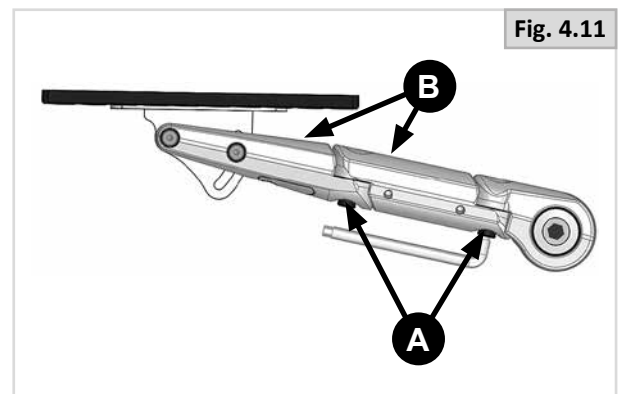

Fig. 4.11
##### Armrest width adjustment (Fig. 4.11 and 4.12)
**NOTE:** Only if the armrest width adjustment of Fig.4.11 & 4.12 is not enough, the armrest axle can be moved out.